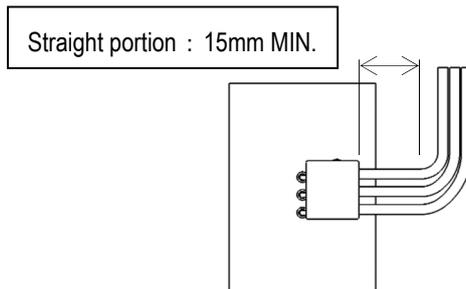

Fig 34. Arrangement of wires
- ① When arranging the wires horizontally, to avoid excessive stress to the sidewalls and terminals, please keep the wires straight (at least 15mm) from connector as shown in Fig.34.
- ② Once straight portion is secured, arrange the wires with adequately large R.